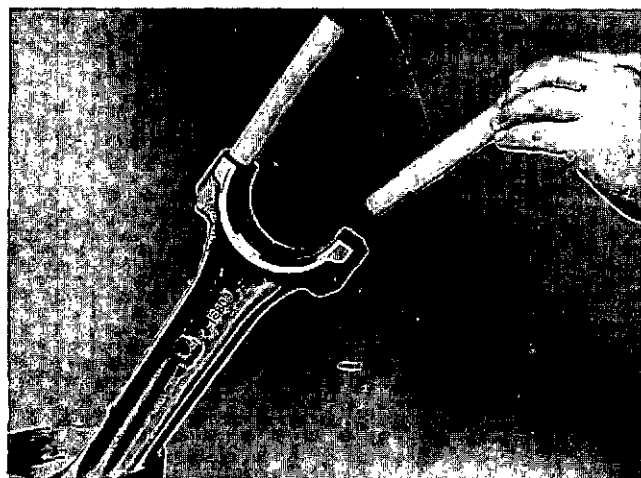

Fig. 14-16 (N114249). Install The Guide Screws Into The Connecting Rod.
5. Install the Part No. 3375601 Nylon Guide Screws into the connecting rod, Fig. 14-16.